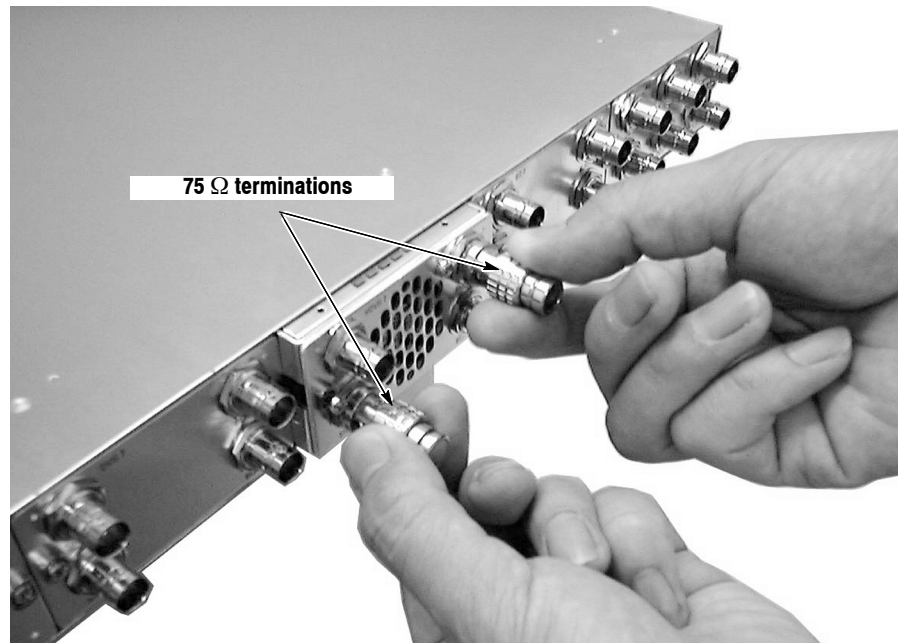

Figure 5: Removing the module
4. Pull the module slowly toward you while supporting the terminations or BNC cables attached to the connectors. See Figure 5.